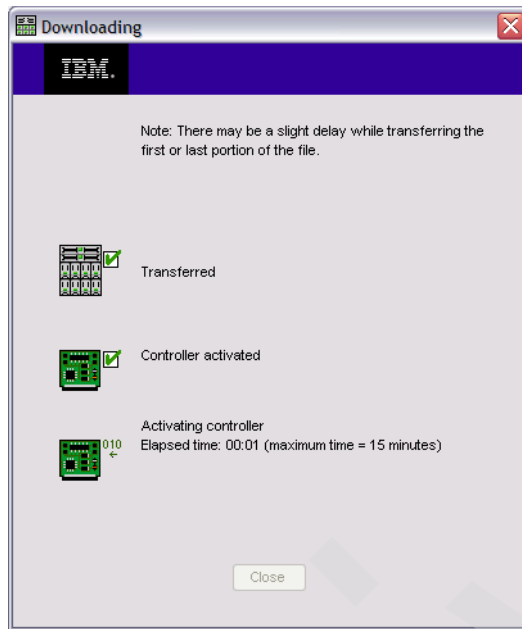

Figure 14-25 Download Progress NVSRAM
3. The Downloading window appears and shows you the status of the transfer and the activation on the controller(s) (see Figure 14-25).